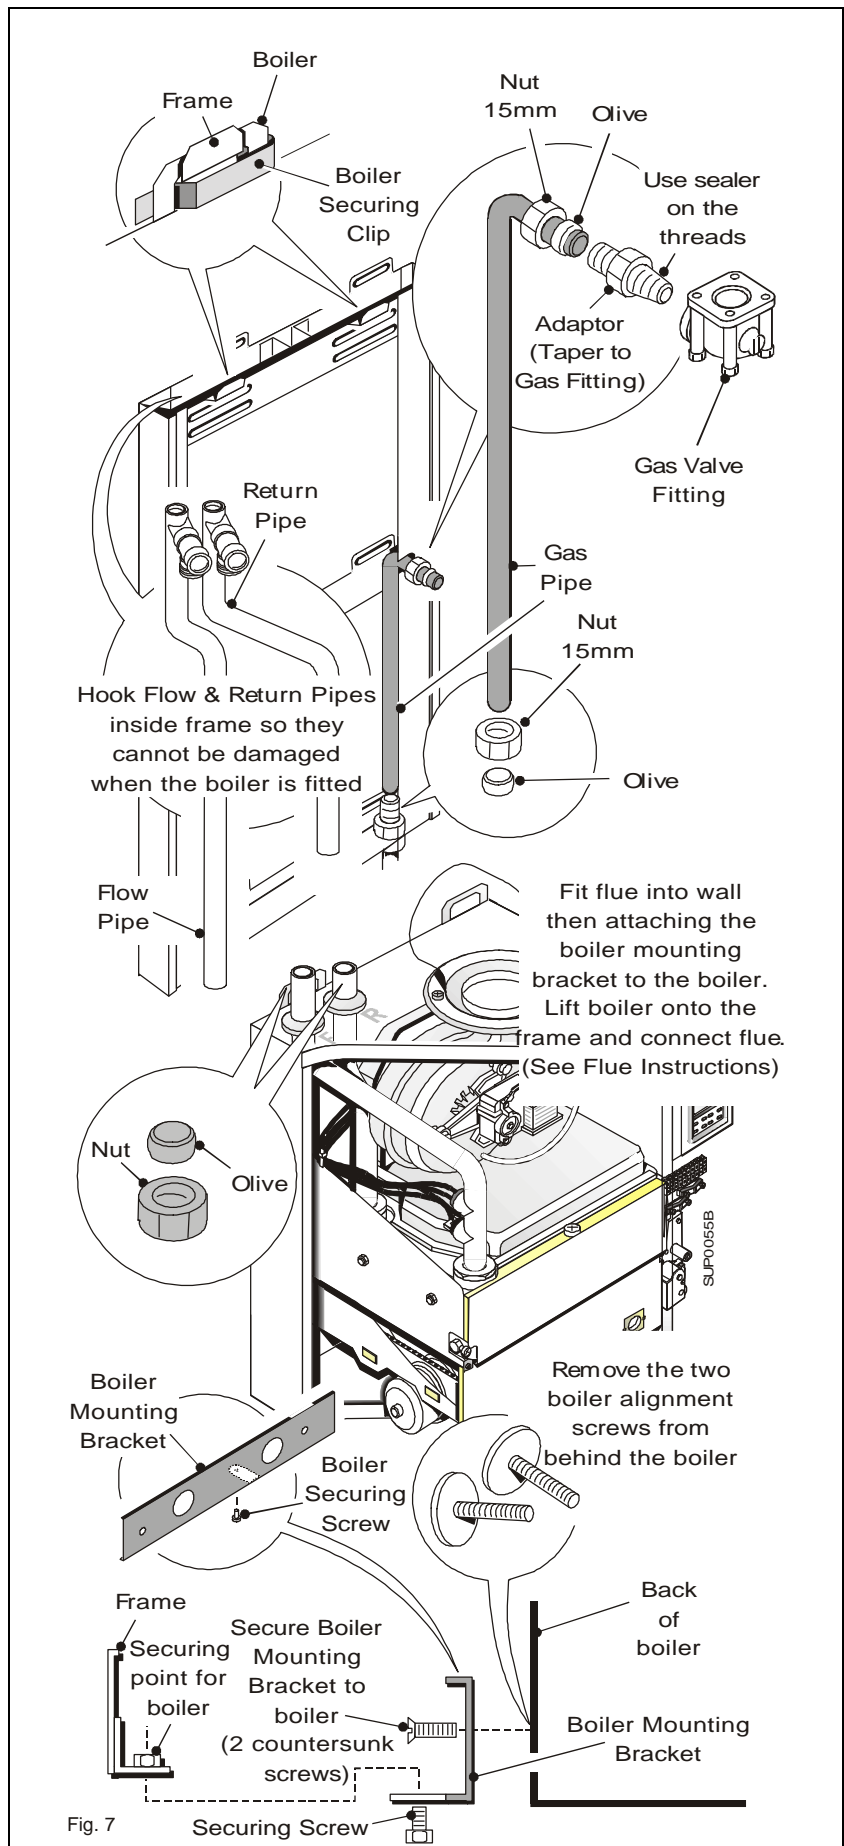

Fig. 7
The flow and return pipes can now be placed into the Mounting Frame in the position indicated in Fig. 7. The flow pipe must be on the left-hand side. Do not attempt to fit these pipes at this stage, hang both pipes on top frame making sure they cannot be damaged when the boiler is mounted to the frame.
3. Loosely connect the gas pipe to the bulkhead fitting using the nut and olive supplied. Ensure that the pipe faces forward and is through the notch in the frame. See Fig. 7.
The Boiler Mounting Bracket must be positioned so that the lug for the fixing hole is at the bottom pointing outwards from the back of the boiler, See Fig. 7.